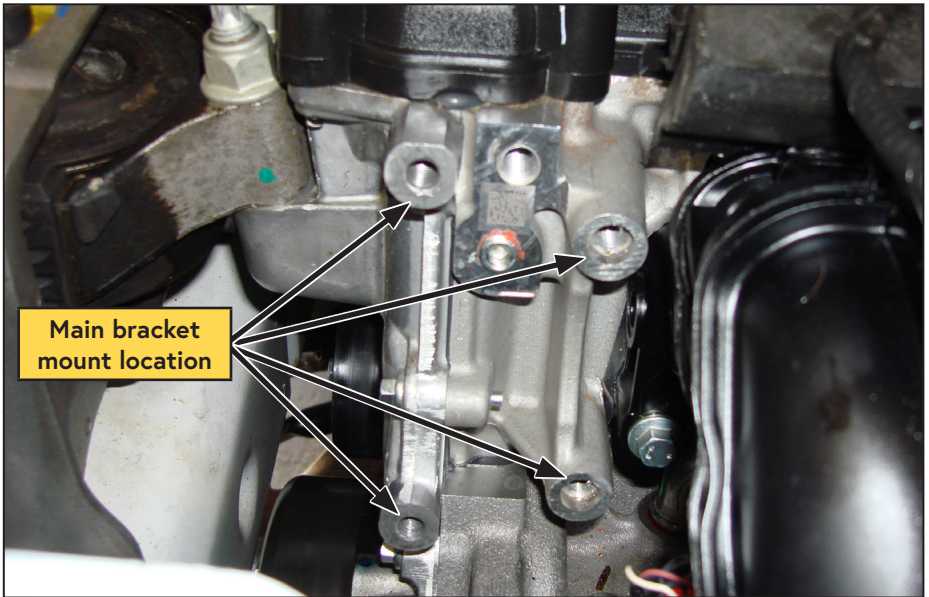

Figure 21 — Main bracket installation
- Install the VMAC main bracket onto the engine and torque to specification (Figure 21).